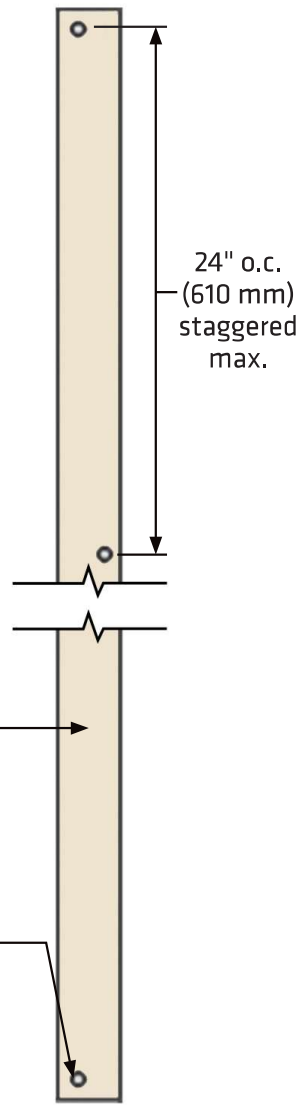

Figure 3b
- Exception: For battens less than 2.5 inches (64 mm) wide, 1 nail is required at each end, with additional fasteners spaced a maximum of 24 inches (305 mm) o.c. along alternating edges *(See Figure 3b)*